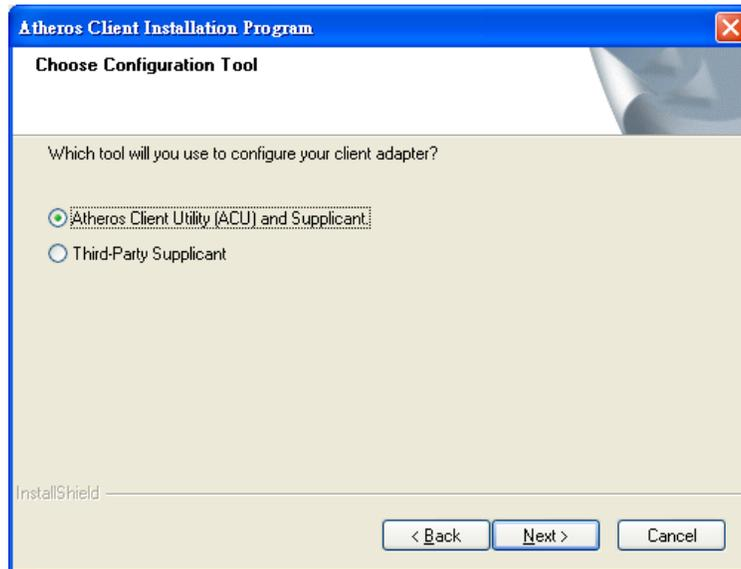

Figure 6-31: Wireless LAN Configuration Tool Selection
Step 10: Choose a configuration tool and click **NEXT** to continue (Figure 6-31).